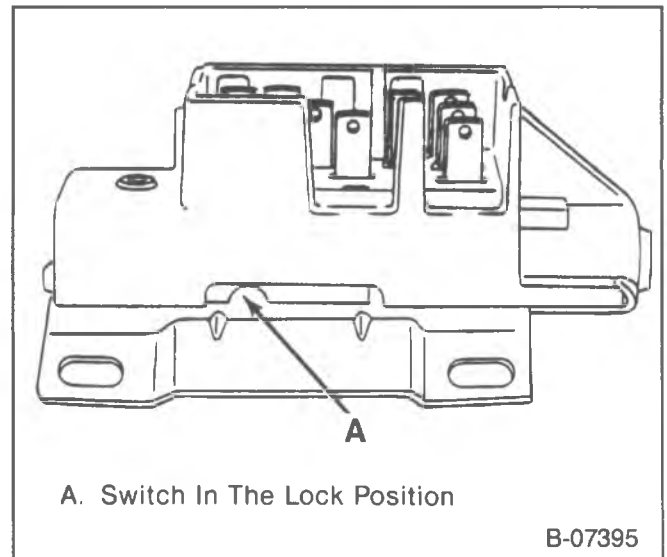

Figure 16—Ignition Switch Assembly
↔ Install or Connect (Figure 16)
- Put the ignition switch in the "Lock" position (figure 16).